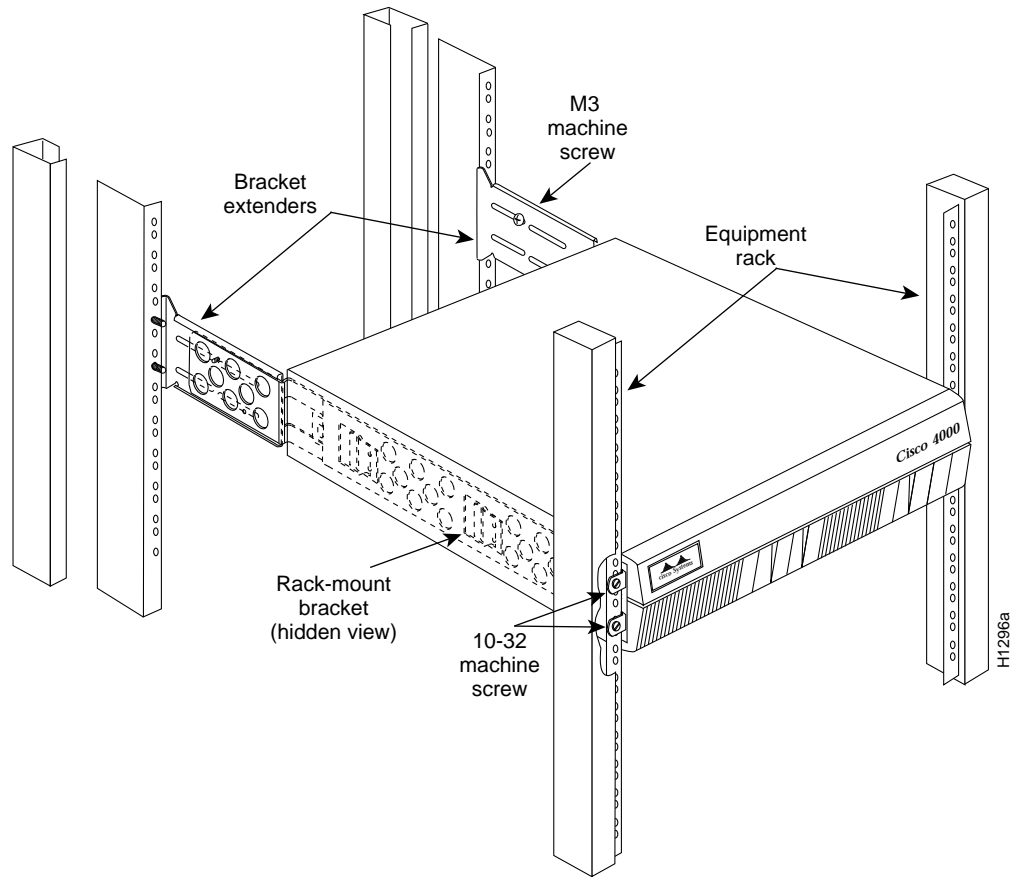

Figure 9 Rack-Mount Bracket Insertion
Step 4: While supporting the chassis shell, slide the rack-mount brackets into the installed rear extenders. The standard rack-mount bracket, extender, and screws fit together as shown in Figure 9.